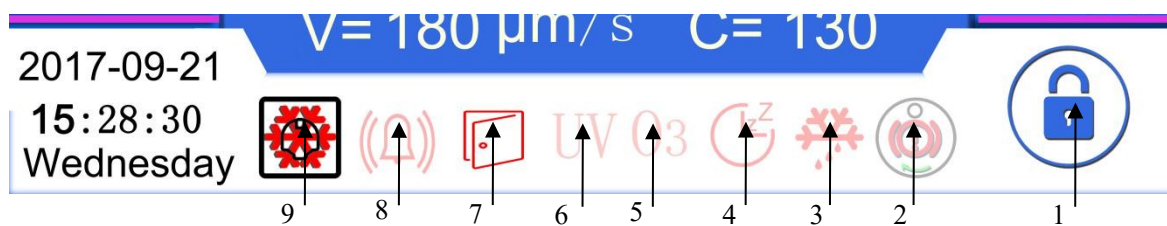

Fig. 17
The lock screen key and auxiliary function display is located in the bottom of the main interface as below Fig. 17.
As shown in Figure 17, the blade holder is installed on the track (1) inside the cryostat. During installation, with the blade holder's blade close to the sample clamp, follow these steps:
- ⊙ Gently rotate Fixed Lever 2 (2) to move the locking block (3) at the bottom of the blade holder away from the bottom of the blade holder until it reaches the farthest position.
- ⊙ Align the locking block (3) at the bottom of the blade holder with the circular hole (4) on the track (1). Simultaneously, align the V-shaped groove (5) at the bottom of the blade holder with the V-shaped groove (6) on the track (1), then place the blade holder onto the track (1) and gently push it forward to the appropriate distance.
- ⊙ Gently rotate Fixed Lever 2 (2) to lock the blade holder onto the track and adjust the adjustable handle on Fixed Lever 2 (2) to the horizontal position.